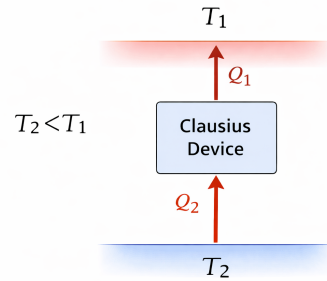

Fig. 3: A “Clausius” device.
In Fig. 3, 2 is the cold (C) reservoir and 1 is the hot (H) reservoir. Heat flows from 2 to 1, which is the opposite of the natural direction of heat flow.